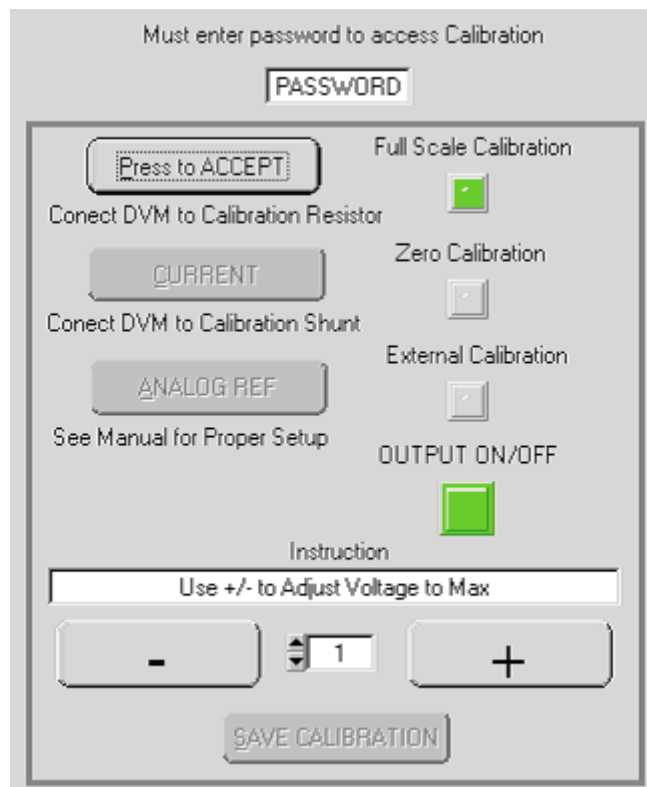

FIGURE 4-2. VOLTAGE CALIBRATION WINDOW
1. Click the **VOLTAGE** button on the Calibration window to start voltage calibration: the Voltage Calibration Window (Figure 4-2) appears. Minimum voltage is first; the status display (on the VXI main panel) reads **V_0**. Monitor DVM and click the "+" button to increase and the "-" to decrease the output voltage until the DVM reads as close as possible to minimum rated POSITIVE voltage.